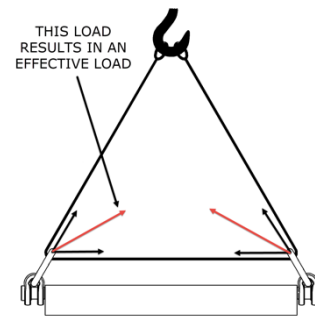

Fig 6
- NEVER reeve slings from one hoist ring to another (Fig.6)